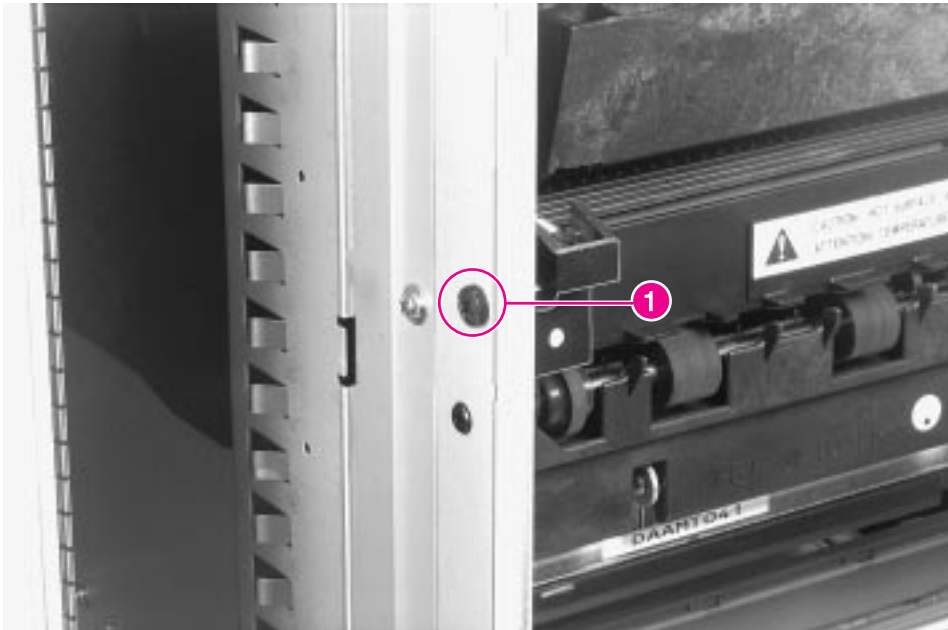

Figure 6-51 Face-Up Solenoid Assembly, SL3
- 3 Remove 1 self-tapping screw (figure 6-51, callout 1).